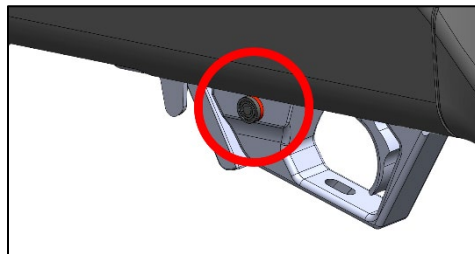

Figure 3 – SAFETY OFF/READY TO FIRE
- **SAFETY OFF/READY TO FIRE** – Push the safety button fully to the left, exposing the red band to the “SAFETY OFF” or “READY TO FIRE” position – Figure 3.